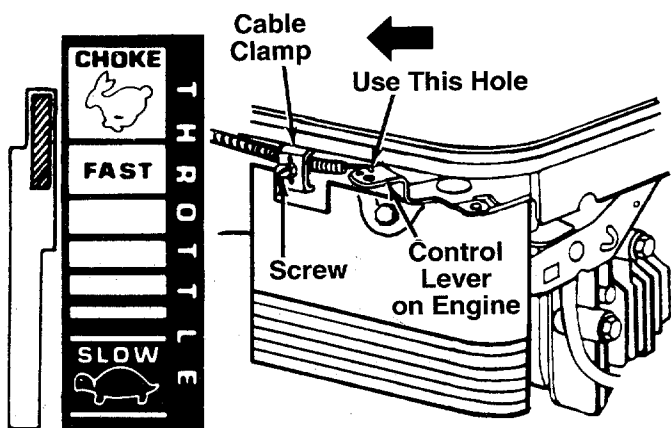

FIGURE 5.
1. Push the throttle control lever on the handle all the way forward to CHOKE position, then back if off one "click." See figure 5.
2. The throttle control cable is attached to the upper handle. Route the throttle control cable under the lower handle. Route the cable to the outside of the handle wheel bracket assembly and height adjustment lever, then in back of the engine. Hook the "Z" end of the throttle control cable into the inside hole in the control lever on the engine shown in figure 5.
3. Using a screwdriver, remove the screw and cable clamp shown in figure 5.